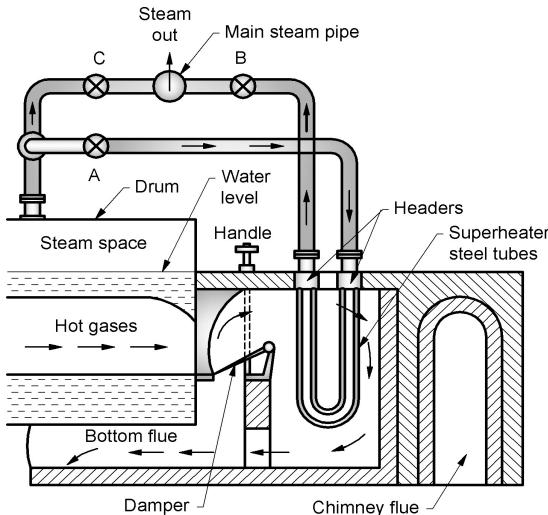

Fig. 2.14 Superheater
- (1) Fig. 2.14 shows schematic diagram of Surgden superheater used in Cornish and Lancashire boiler. It consists of two headers and set of superheater tubes made of high quality steel in the form of U-tube.
- (2) Superheater is located in the path of flue gases where the temperature of the gases is above 500°C. The superheater is located just before the gases enter the bottom flue.
- (3) The amount of flue gases that passes over the superheater tubes is controlled by damper which is operated by hand wheel. Valves A, B and C are provided in the header as shown in Fig. 2.14.
- (1) For getting the superheated steam, valves A and B are opened, valves C is closed and damper is kept open as shown in Fig. 2.14. The wet steam from the boiler enters the intake header through valve A.
- (2) The steam flows through U-tube where it receives the heat from the hot flue gases and becomes superheated. The superheated steam then passes to the discharge header, valve B and then to main steam pipe.
- (3) When superheated steam is not required, then valves A, B and damper are kept closed and valve C is kept open. In this case, the steam directly comes out through valve C.
- (4) The amount of hot gases passing over the superheater tubes should be in proportion to the amount of superheated steam passing through the tubes and the degree of superheat required. To avoid overheating, some amount of hot gases may be diverted using damper.
- (5) When the damper is horizontal hot flue gases pass directly to the bottom flue. If the damper is kept inclined, some of the flue gases will pass over the superheater tubes and remainder will pass directly to the bottom flue.